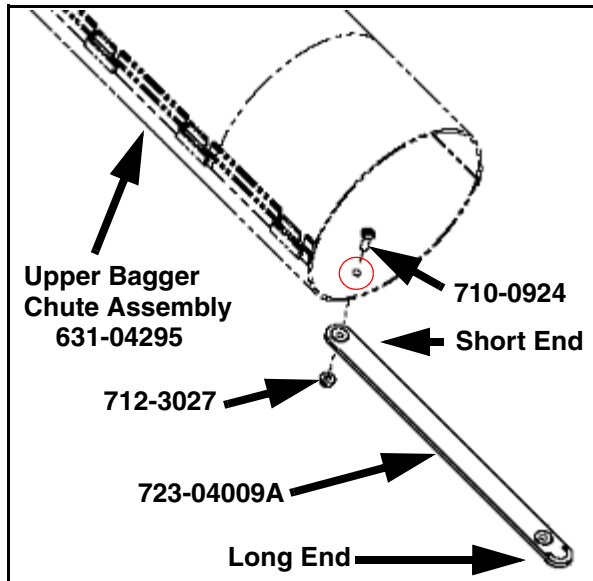
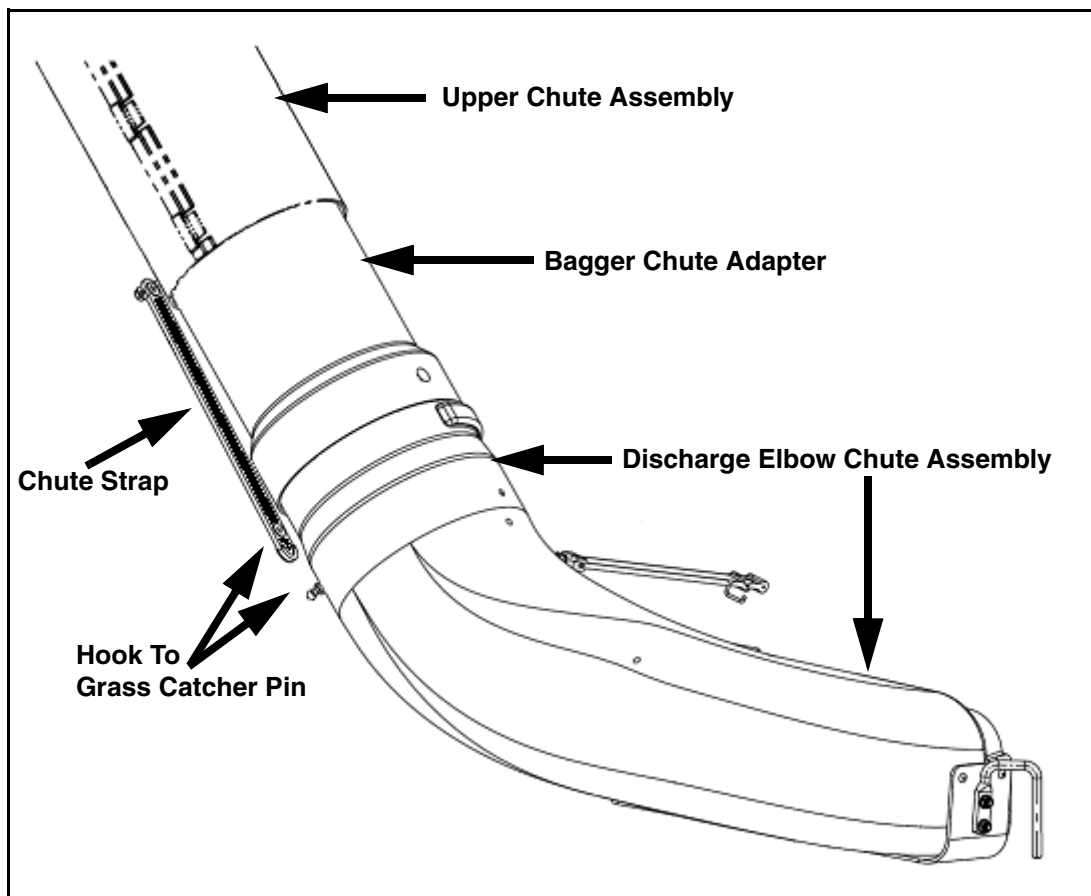

FIGURE 9
FIGURE 11
11. Install Ref. #1 (**710-0924**) 1/4-20 x .75" machine screw through the bottom side hole and from the inside out of the upper bagger chute assembly as shown in Figure 9.
12. Place the short end of Ref. #5 (**723-04009A**) chute strap over the 1/4-20 x .75" machine screw on the outside of the upper bagger chute assembly and secure with Ref. #4 (**712-3027**) 1/4-20 flange lock nut. See Figure 9.
15. Secure the upper chute assembly to the discharge elbow chute assembly by hooking the long end of the chute strap installed in step 12 (Figure 9) to the grass catcher pin installed in step 13. See Figure 11.